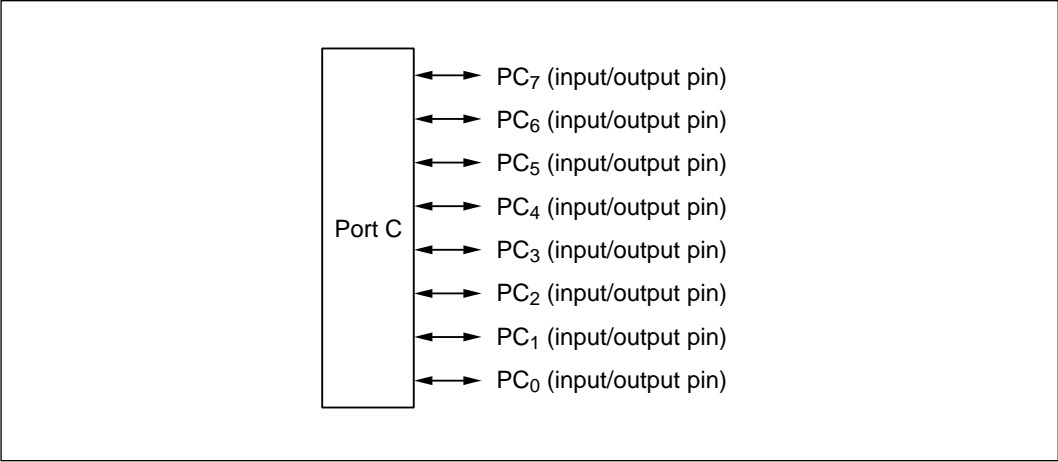

Figure 10-86 Pin Functions in Mode 7
(3) Pin Functions in Mode 7: Port C consists of general-purpose input/output pins. Input or output can be selected separately for each pin. A pin becomes an output pin if the corresponding PCDDR bit is set to 1 and an input pin if this bit is cleared to 0. Figure 10-86 shows the pin functions in mode 7.